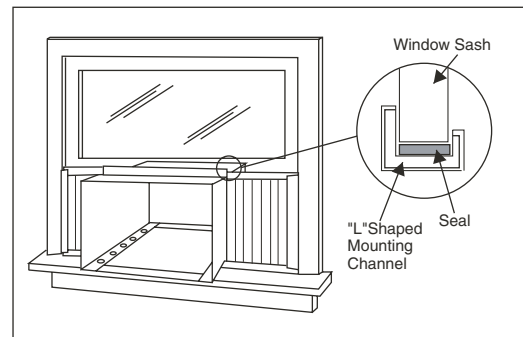

Fig. 16 – Mounting Channel
- B. Ensure the "L" shaped mounting channel is positioned in front of the sash. The bottom channel of the cabinet should be positioned in the track provided on the bracket assembly. Pull the window down until it rests just behind the front of the "L" shaped mounting channel. See (Fig. 16).